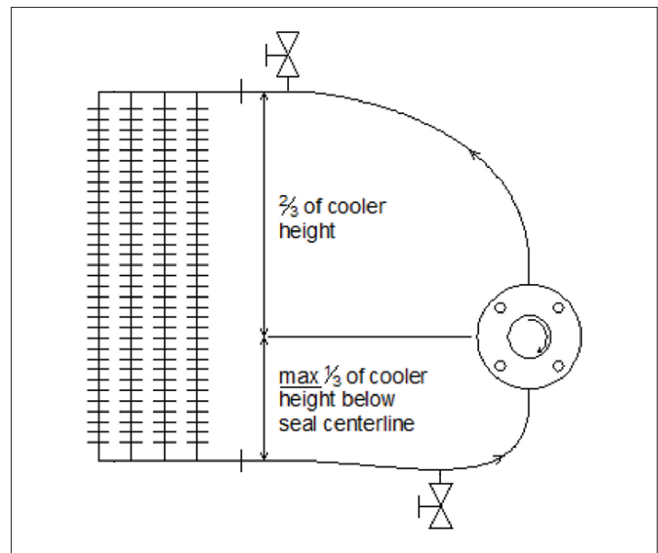

Figure 8: Set-up for Air Cooler with height ≥ 1.5 meters
- When the Air Cooler will be installed in a closed loop for cooling purposes, Flowserve recommends positioning the Air Cooler according section 6.4 figure 8. This will promote thermosyphoning when main equipment is in hot stand-by.